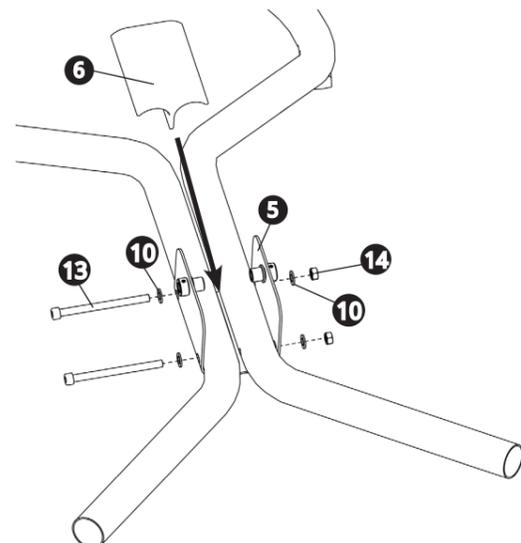

Figure 4. Alignment bracket and side connections
2. Place the 6 alignment bracket over the frames into the 5 seat bracket. Tap gently with mallet to fully seat the alignment bracket into the seat bracket (Figure 4).
3. With the alignment bracket in place, secure the 5 seat bracket to the sides of the frames with 2 13 M8 x 130 mm SHCS, 4 10 9 mm flat washers, and 2 14 M8 hex nuts (Figure 4). Hand-tighten only.